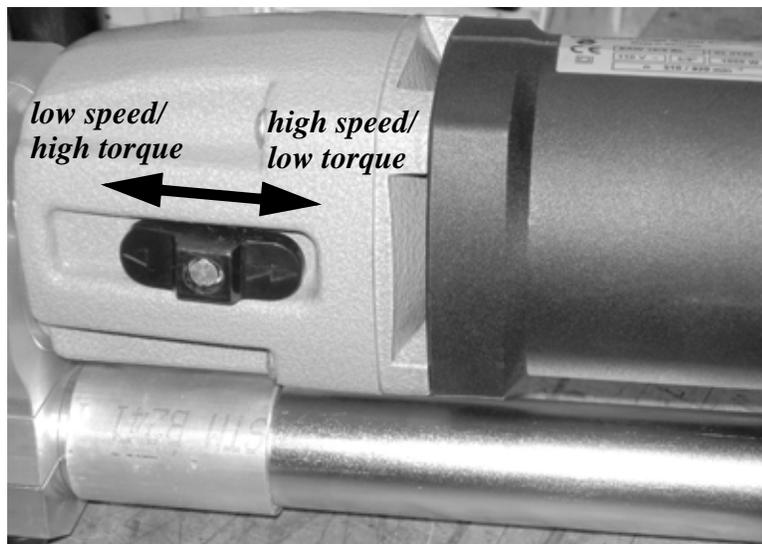

Figure 5-11. The speed switch is on the bottom of the electric motor housing.
2. There are two speed/torque settings on the electric motor. For normal operation, keep the speed switch in the high speed/low torque position (see Figure 5-11). If higher torque is required (for instance, when unseating a valve), use the low speed/high torque setting.